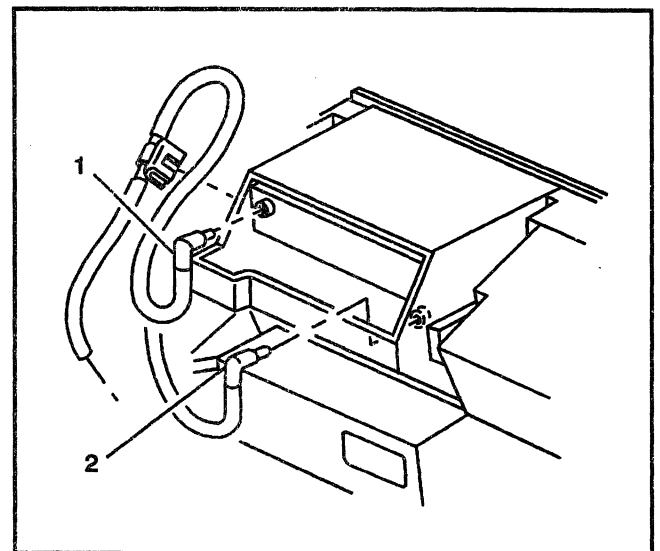

Figure 20—Antenna Extension Cable Routing to Radio
↔ Remove or Disconnect (Figures 20 through 22)
2. Extension cable from radio (Figure 20).
Install or Connect (Figures 20 through 22)
- 1. Extension cable to radio (Figure 20).